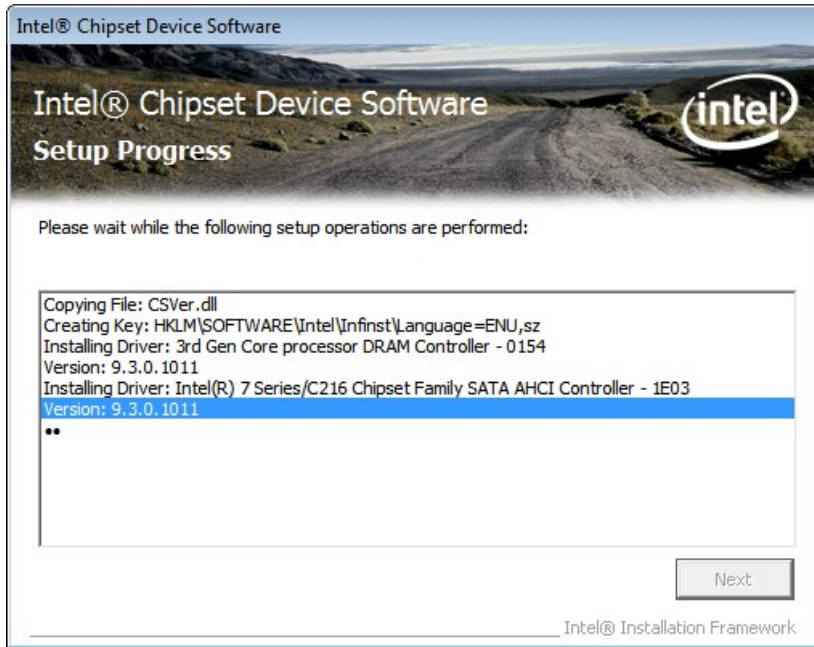

Figure 6-5: Chipset Driver Setup Operations
Step 11: **Setup Operations** are performed as shown in **Figure 6-5**.